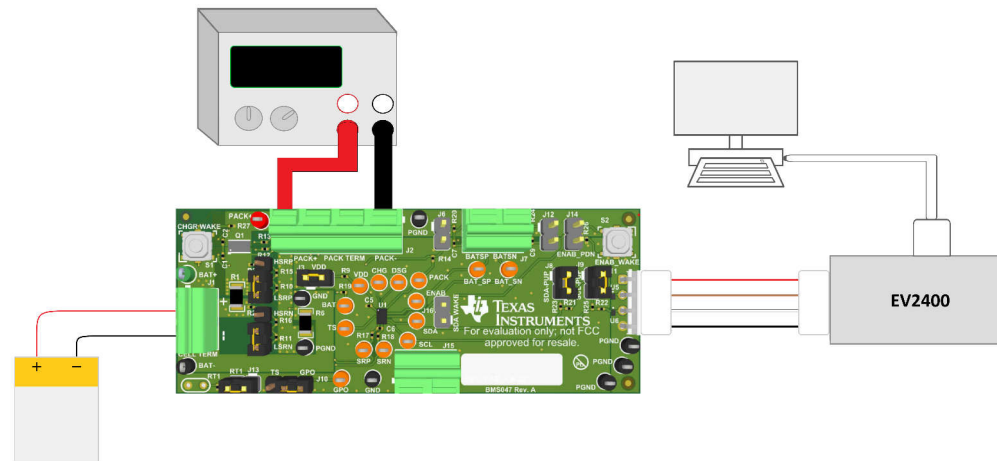

Figure 3-1. Connect the BQ27Z746 Circuit Module to a 1SxP
Figure 3-1 shows how to connect the BQ27Z746 circuit module to the battery, personal computer (PC), and a system load/charger.